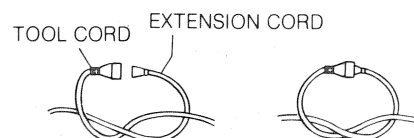
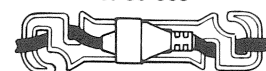
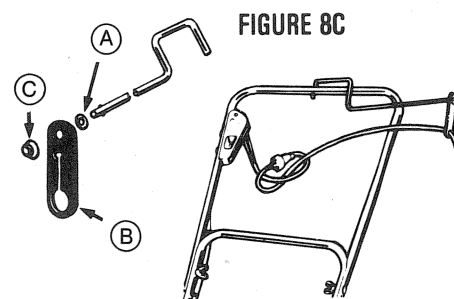

FIGURE 8A
FIGURE 8B
FIGURE 8C
ⓐⓑⓒ (See Fig. 8C)
DO NOT connect the extension cord to power source until you have finished reading this manual and are ready to start mowing. To prevent disconnection of mower cord from extension cord when mowing, (1) make a knot as shown in Figure 8A, or (2) use the accessory Cord Connector shown in Figure 8B (available at small extra cost from your dealer).
Your mower is equipped with a Cord Control Rod with which to flip the extension cord to either side of the lawn mower. To assemble, put the flat washer on the rod first, as shown in figure 8C. Then push the small hole in the plastic cord connector over the rod and secure by pushing or tapping the metal cap in place.
Insert the Cord Control Rod into the handle as shown in Figure 8C and push the female plug on the extension cord through the large hole in the plastic cord connector as shown. Connect extension cord to mower cord as shown in figure 8A or 8B in this Owner's Manual.